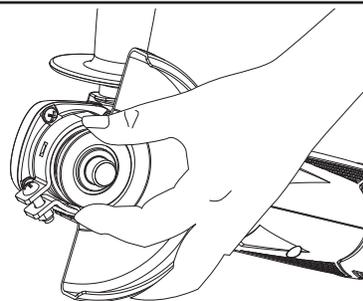
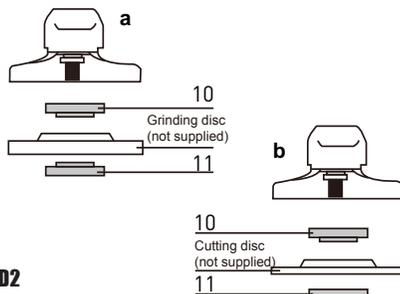

Fig. D1
Fig. D2
4. FITTING THE DISCS (See Fig. D1, D2, D3)
Put the inner flange (10) onto the tool spindle. Ensure it is located on the two flats of spindle (See Fig. D1). Place the disc on the tool spindle and inner flange (10). Ensure it is correctly located. Fit the threaded outer flange (11) making sure it is facing in the correct direction for the type of disc fitted. For grinding discs, the flange is fitted with the raised portion facing towards the disc. For cutting discs, the flange is fitted with the raised portion facing away from the disc (See Fig. D2).